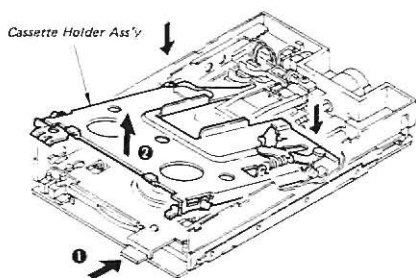

Fig. 4-6 Cassette Holder Ass'y Replacement
- Be careful not to apply the excessive force to the head carriage ass'y. While pushing the eject lever, take the Cassette Holder Ass'y. (Refer to Fig. 4-6)
- Insert carefully the Cassette Holder Ass'y underneath the arm of the head carriage ass'y, then set the holder into the location shown by arrow as shown in Fig. 4-6, while pushing the eject lever.